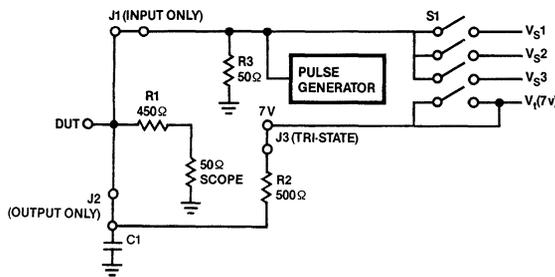

Figure 5. Signetics PCB Fixture Schematic
There are two types of signal lines on this fixture: input and output; both of which are 50Ω transmission lines. The input line is on the top side of the board and is always terminated in 50Ω . It is connected to the DUT via a .3" jumper, Jumper #1 for input. When this jumper is installed, the DUT pin is available only as an input. To allow this line to be used as an output, a .1" jumper, Jumper #1 for output, is used instead of the .3" jumper. This connects the DUT pin to the AC load when the DUT pin is an output. See Figure 5.
hard to detect errors into the waveform. The second reason being that most suppliers of these technologies provide data based upon the Low-impedance approach and most large users of these products do so as well. This also allows the fixture to be used for ECL testing since that product uses a totally 50Ω environment. Figure 5 illustrates how this test fixture implements the 50pF/500Ω load schematically.
As illustrated in Figure 5, the load is shared with the 50Ω input of the measurement system; a 50Ω sampling oscilloscope. The 450Ω resistor: R1, is soldered to the socket pin of the device and is in series with the 50Ω input of the scope. Figure 6 illustrates this on the board layout of one input/output pin. This allows virtually a probe tip on the device pin. The load capacitor: C1, is a 33pF ceramic chip capacitor. This is added to the measured value of 17pF of board capacitance, achieving the 50pF value specified for the load. The distance from the pin to the capacitor is .5 inches and is adequate for the testing of these product families.
For testing 3-State parameters, the 500Ω resistor: R2, is connected to its pullup supply: V_T via a .3" jumper: Jumper #2. The V_T supply is bussed to each pin and may or may not be connected with that jumper. See Figures 5 and 6.
When the input is not used for a signal input, the line may be switched to one of three voltage sources. $V_S 1$ through $V_S 3$, by the use of a DIP switch on each pin. It may also be left open and then the 50Ω pull-down resistor, R1, pulls the line to ground and can be used as a hard low level. See Figure 5. These voltage levels are brought in from external supplies through banana connectors like V_{CC} . This scheme eliminates excessive cabling to each input to provide the static input levels and thereby reduces parasitic inductances and cross-talk. Each of the 3 busses and the V_t bus all have places for bypass capacitors in the event of noise on the static levels. Figure 8 illustrates the DIP switch and SMB connectors and how they control the input stimulus and output measurement.
dedicated fixture. However, on a dedicated fixture, the pins are individually constructed to be either an input or an output, and in so doing, the fixture is usable for 1-to-4 devices. The Signetics fixture, once dedicated to a particular V_{CC} and GND configuration, is built up to have both input and output components on all signal pins. The selection of which pin is an output or an input is made by inserting the appropriate jumper, See Figures 5 and 6. The same applies in doing tri-state testing. The tradeoff here is that it would probably take less time to setup the dedicated fixture than the Signetics fixture. To help compensate for that tradeoff, we have the three V_S supplies that may be switched into any pin to provide input static levels and eliminate the need to bus input High or Low levels by external cabling. For the user that means the only connections being made to the fixture are:
- the V_t supply (banana jack): this is the 3-State pullup voltage and is permanently connected to the bus to each pin. It is selectable by Jumper #2, see Figures 5 and 6. For FAST and ALS products this is 7V. For ACL products this is $V_{CC} \times 2$ and it is not used for ECL applications.